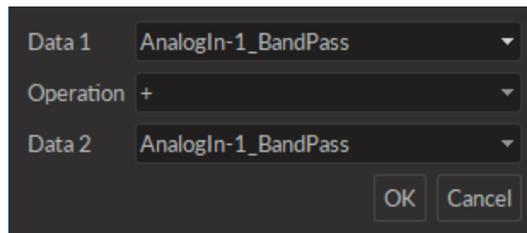

Figure 3.33: *Arithmetic Window*
- The **Arithmetics** button opens the arithmetic window (Fig. 3.33). From this window simple arithmetic operations (+, -, ×, ÷) can be performed on any two data sets currently in the module. This includes data sets that have already been processed.